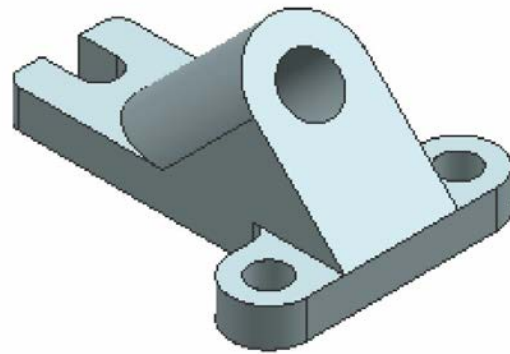

Figure 5-74 Final model for Tutorial 3
6. Choose the **OK** button; the feature is created. Hide the sketch of the circle and then choose the **Fit** tool to fit the model into the screen. The final model for this tutorial is shown in Figure 5-74.